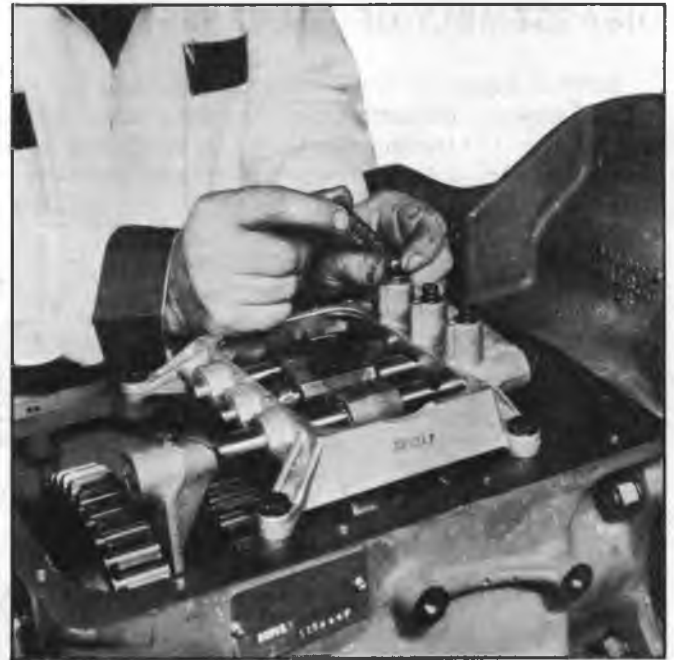

Fig. 31N--Positioning Lock Balls and Springs in Support Housing
18. With transmission shifted into neutral, install shift control assembly. 2nd and 3rd, 4th and 5th shift forks set over shift hubs, 1st and reverse fork enters slot on 1st and reverse gear. Tighten bolts 20 to 25 ft. lbs. torque. Position three mesh lock balls and springs in support housing (fig. 31N).